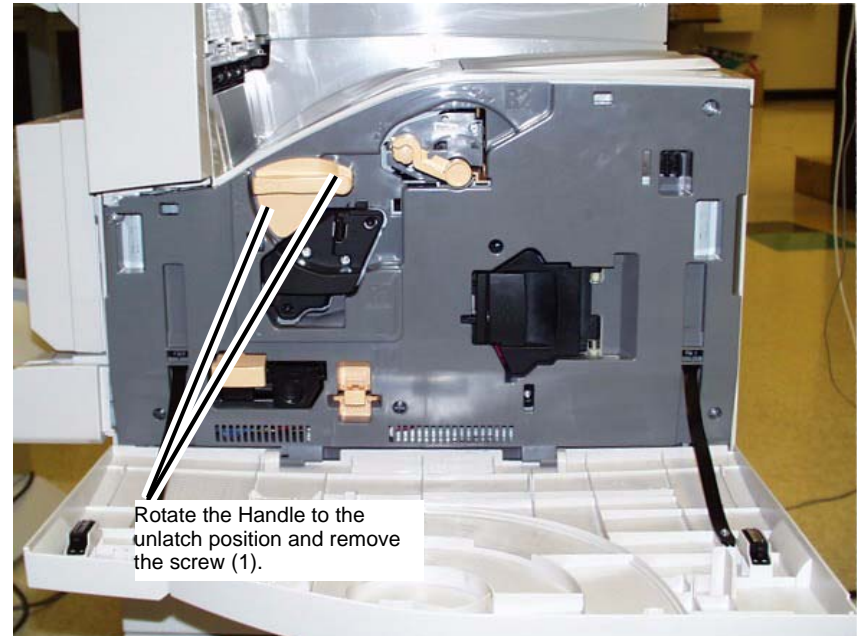

Figure 1 Removing the Print Drum Latch Handle
2. Remove the Print Drum Latch Handle. (Figure 1)
- b. Remove the screw (1).